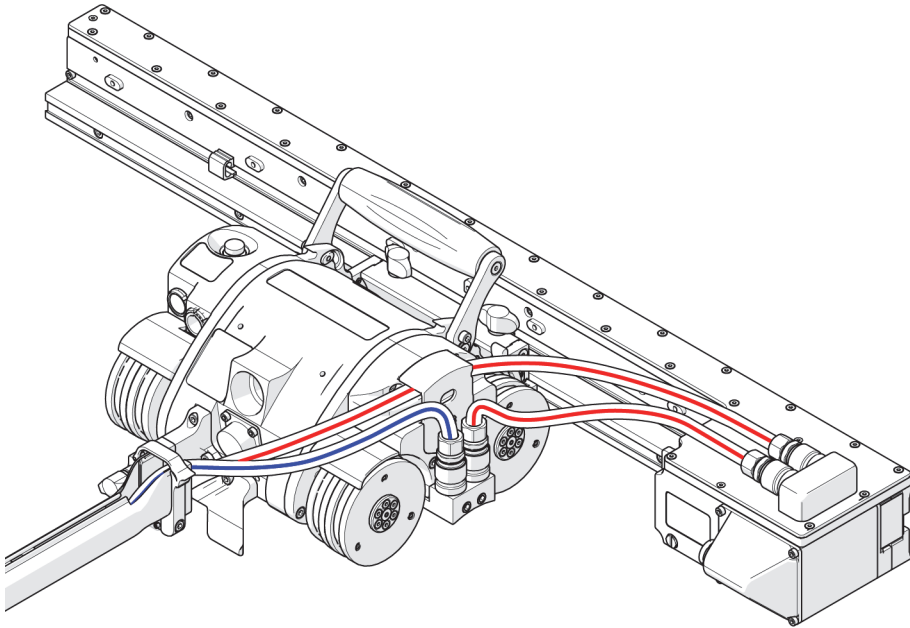

Figure 2-64 Hose routing with raster arm
The quick connect fittings on the top of the HT raster arm provide a connection point for hose fittings. Press the hose fitting onto the quick connect to attach (see Figure 2-64 on page 90)
3. Route the hoses through the cable management system and connect them to the Cooler (see Figure 2-64 on page 90).